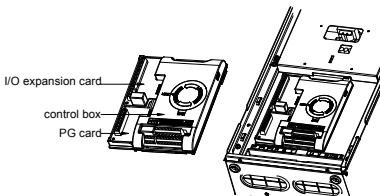

Figure-2 Schematic Diagram of Assembly & Disassembly of I/O Expansion
Refer to Figure-2 for the assembly and disassembly of the expansion board.
2. Pull the expansion board upward (as shown in Figure-2) to remove it from the socket on the control panel.